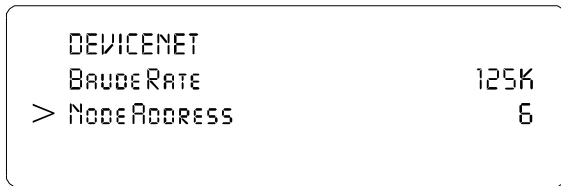

FIG. 46: DEVICENET/SELECTING NODE ADDRESS
- Step 9. Use the down arrow to move cursor in front of “Node Address”. (See Fig. 46)